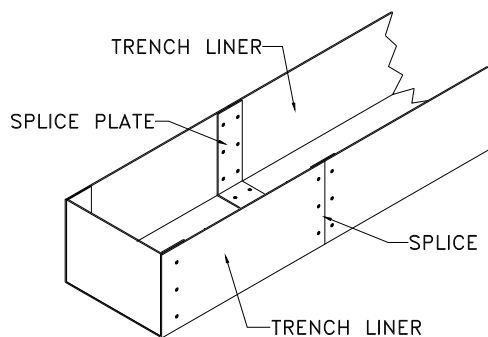

Figure 14
**STEP 8.** Spot weld or rivet the free end of the splice plate to the mating section of the trench liner, ensuring that the mating sections of the trench liner remain as tightly abutted together as possible (see Figure 14).